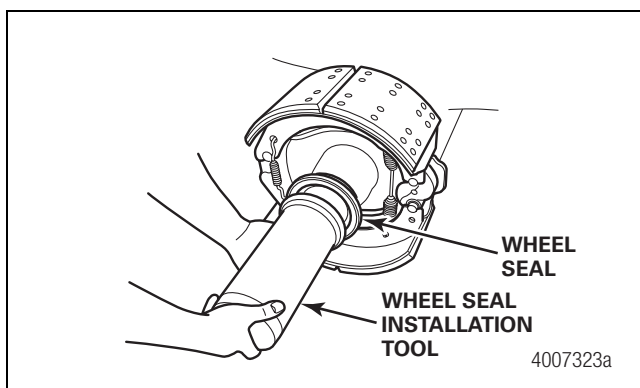

Figure 55
- Install the wheel seal on the spindle. Make sure to position the seal wiper first on the spindle end. Use a wheel seal installer/driver, Stemco part number 552-236, and mallet to drive the wheel seal on the spindle end until correctly seated. Figure 55.